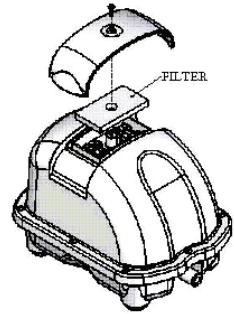

FIG. 1
1. Loosen the screw on top. *(As shown in figure 1)*